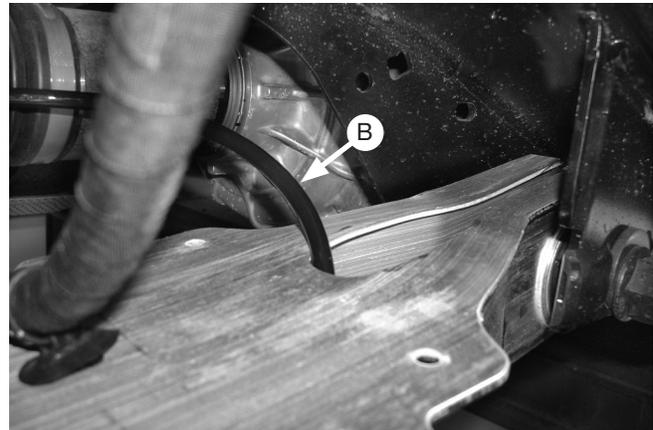

Fig. 2
1. Insert one end of the air line (B) into the top center hole of the lower control arm, next to the inside pivot point and push line toward lower spring seat hole (Fig. 2).